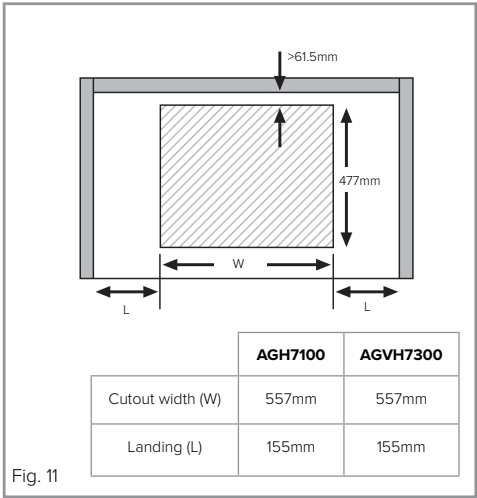

Fig. 11
vertical surfaces, e.g. a tall cupboard end panel. This may be reduced to 100mm if the adjacent surface is resistant to fire (tiles or steel, for example). These dimensions are shown in Fig. 11 on page 25.
1. Make the required hole in the worktop. Note that before doing this, check the instructions supplied with any cooker hood to ensure that you will have the required clearance. The cut-out (Fig. 11) shows a 61.5mm gap from the wall to the cut-out edge. The distance for the hob, when fitted, to the back wall is 50mm.